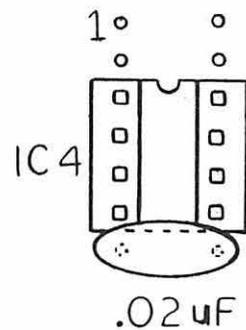

Fig. 3
5. Install the other .02 μ F cap in vacant holes 7 and 8 of IC4. See Figure 3, below.